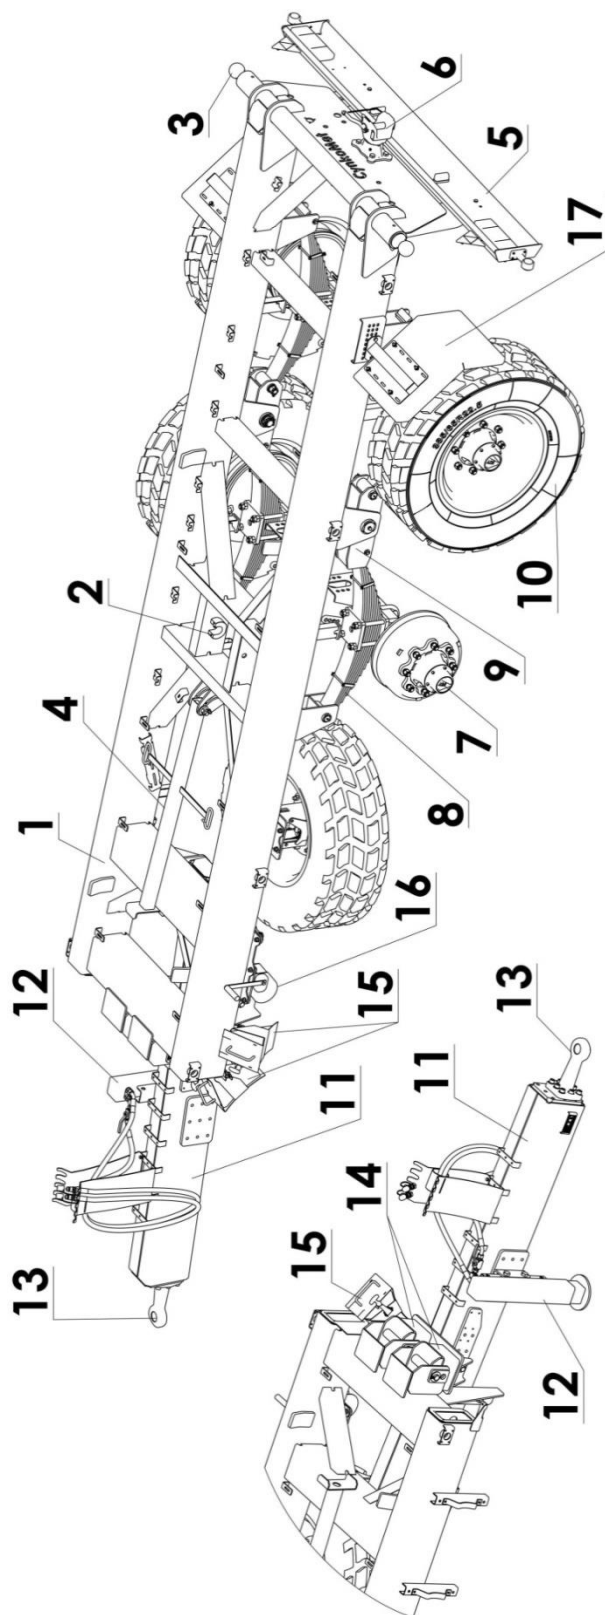
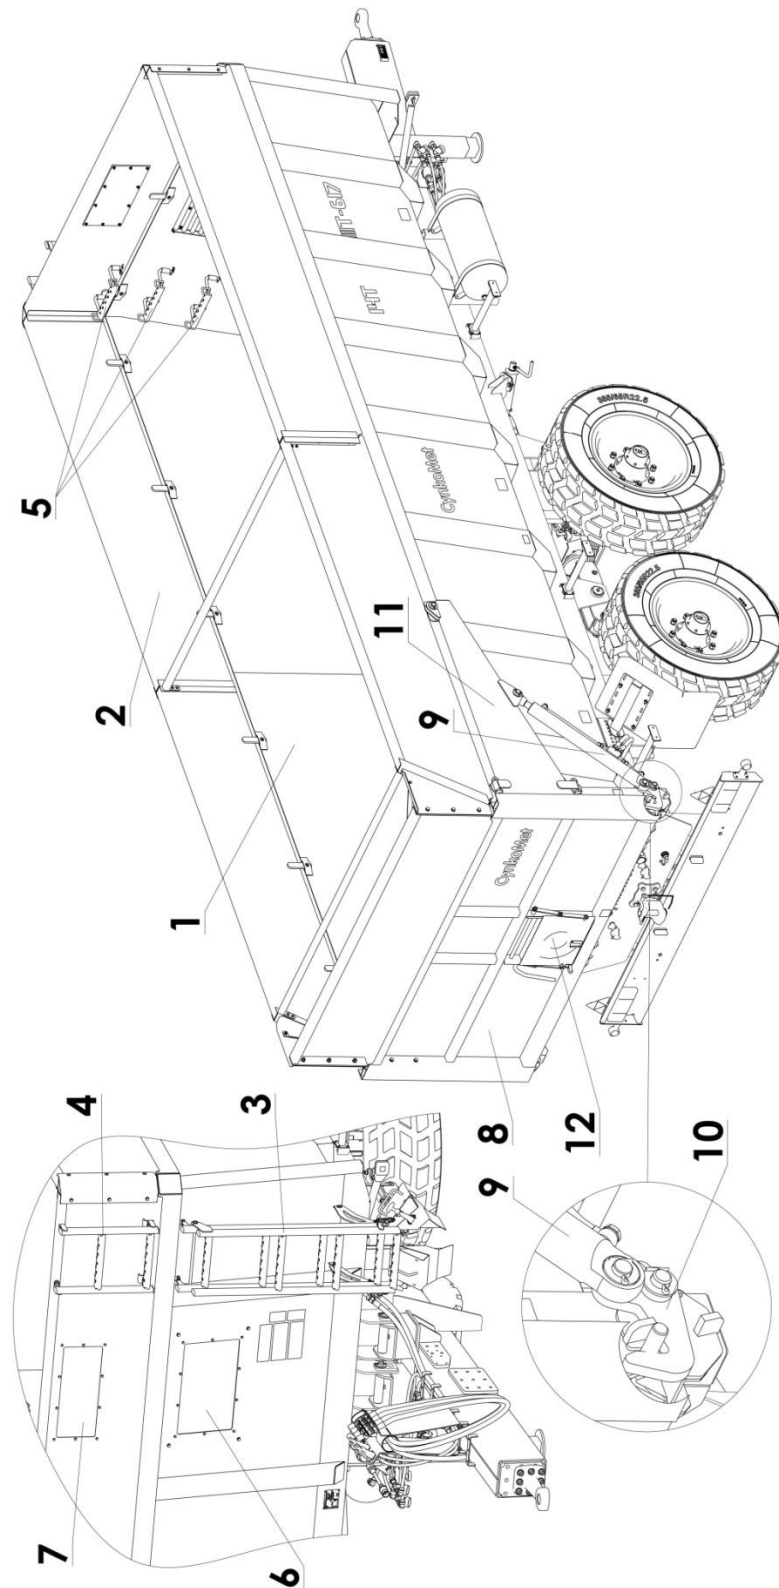
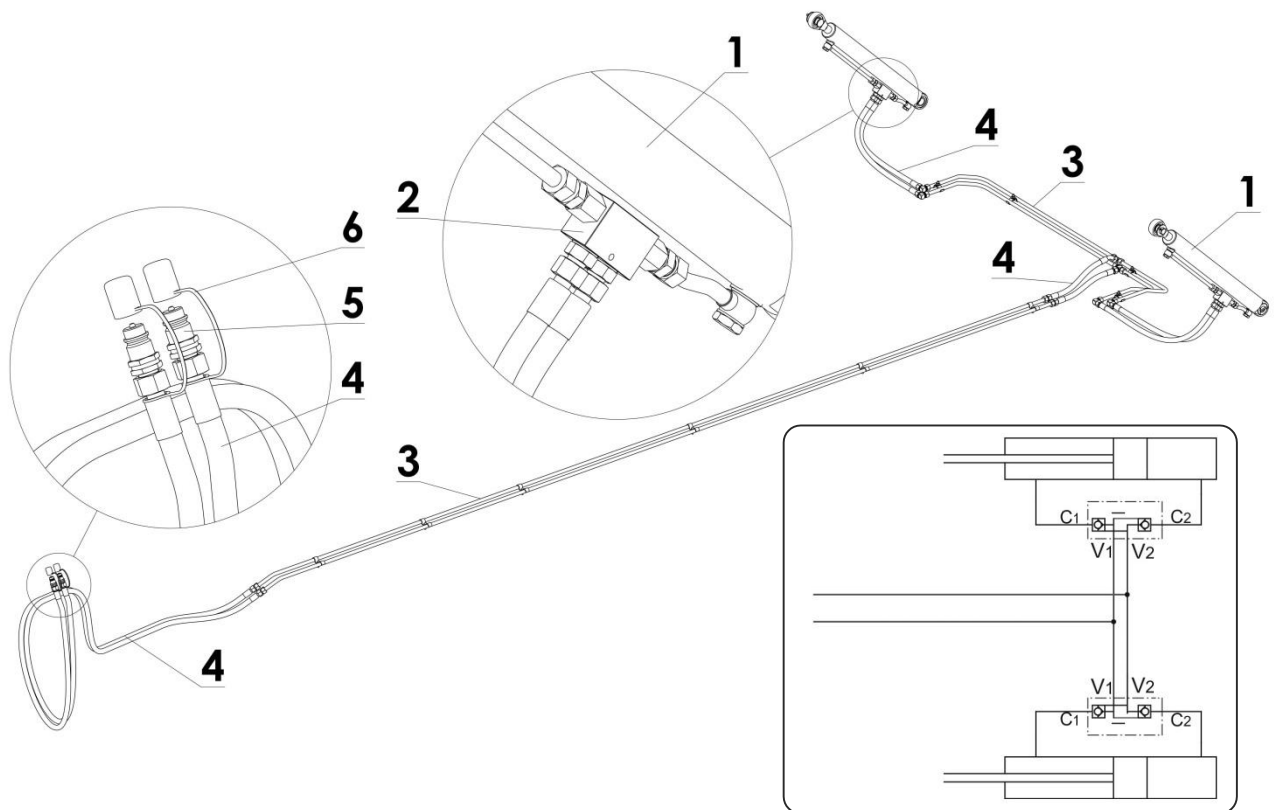

Figure 5. Trailer chassis.
Figure 6. Load box.
Figure 9. Design and diagram of the hydraulic system of the rear door.
The chassis of the trailer consists of the following parts shown in fig. 5.
Trailer T-617 has a shell load box (1) (fig. 6) welded from plates and steel sections. The load box is mounted on the pins of the lower frame (fig. 5), which are the pivoting points during load box tipping. The load box is equipped with extensions (with a height of 500 mm) (2) on standard.
The hydraulic system of the rear door (fig. 9) is supplied with oil from the oil system of the tractor, and it is used to open and close the rear door of the load box (fig. 6) using hydraulic cylinders (1). To control the lifting of the load box, the oil distributor of the external hydraulic tractor is used. The bottom eyes of the cylinders are fixed to hooks that automatically lock the rear door upon closing.